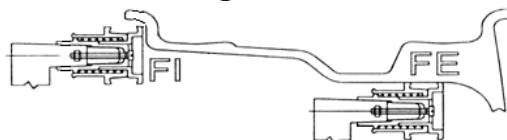
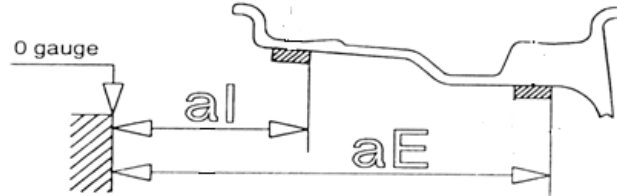

Figure 7-8
Figure 10-10
5-1(8)) all on, if is follow figure 7-8 input date of rim, next step follow 10.2.3 clip counterweight, if not, ect figure 10-10 of left side show, stick counterweight on 12 o'clock position on inside of rim.
10.3.4 Slowly spin wheel, when inside counterweight position indicator light(fight 5-1(9)) all on, stick correspond counterweight on 12 o'clock position on outside of rim, ect figure 10-10 right side;
10.3.7 If is follow figure 7-8 input date of rim, follow 10.2.3 clip counterweight on inside edge of rim. Press STOP key and ALU key, all middle of LED display - - -, follow 10.3.9 stick counterweight on outside of rim.
10.6.3 Slowly spin wheel, when outside counterweight position indicator light (figure 5-1(9)) all on, stick counterweight on 12 o'clock position outside of rim, ect figure 10-10 right side;
10.6.4 Slowly spin wheel again, when outside counterweight position indicator light (figure 5-1(9)) all on, find second position, stick counterweight on 12 o'clock position outside of rim, ect figure 10-10 right side;